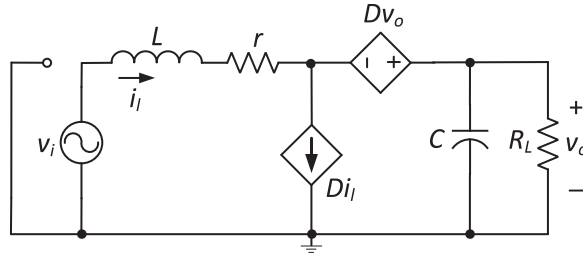

Figure 34.1 Small-signal model of the boost converter for determining the input impedance Z_i with small-signal perturbations $d = 0$ and $i_o = 0$.
1. The small-signal model of the boost converter needed to determine the input impedance is as shown in Figure 34.1. Construct the model on the circuit simulator. The model is the same as that needed to determine the input-to-output voltage transfer function as discussed in Lab 35. Make sure you have replaced the MOSFET with a current-controlled current source representing Di_i . Similarly, the diode must be replaced with a voltage-controlled voltage source representing Dv_o .
5. Plot the magnitude and phase of the ratio of the input voltage v_i to the input current i_i . Compare the theoretical plots in Section B, item 3 with those obtained through simulations.